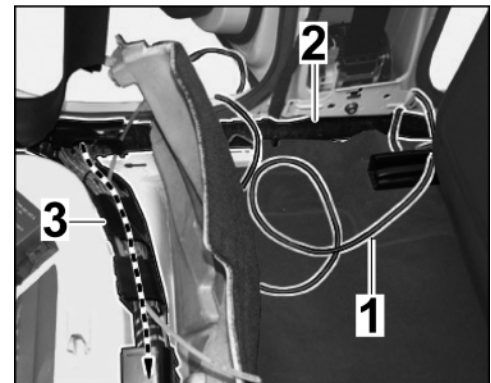

Figure 9
- 2.3.3 Route the electric wire harness along the main wire harness in the passenger compartment on the left through the cable duct in front of the rear seat to the right-hand side of the vehicle. \Rightarrow *Figure 9*